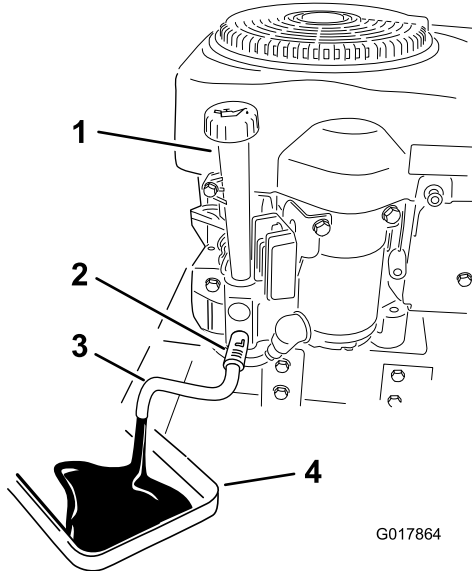

Figure 30
4. Clean the area around the drain valve and on the machine frame. Locate the oil drain hose and slide it over the drain valve (Figure 30).
6. Place a pan underneath the machine directly below the drain hose as shown in (Figure 30).
7. Turn the drain valve 1/4 counter clockwise to open and allow the oil to drain. Remove the oil fill cap/dipstick (Figure 30).
10. Slowly pour approximately 80% of the specified amount of oil into the fill hole (Figure 30). Check the oil level; refer to Checking the Oil Level.